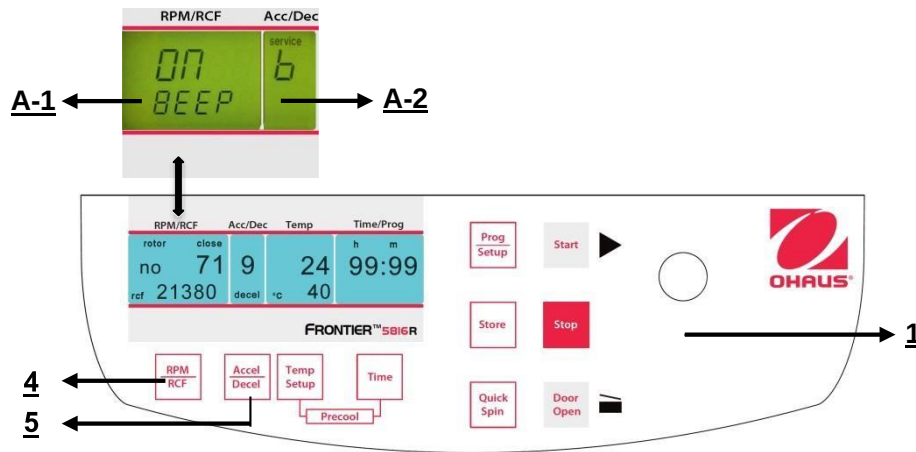

Figure. 38
Proceed as described under point 4.1.1 to enter this program mode and then press the key "**Accel/Decel**" (5). In the display "**Acc/Dec**" (A-2) the word "**Service**" flashes. Now select the letter "**B**". with the adjusting knob (1). As a result, in the display "**RPM | RCF**" (A-1), the word "**ON/BEEP**" appears. After pressing the key "**RPM | RCF**" (4), you can turn the keyboard sound (On) or (Off) with the adjusting knob (1). (See figure 38).